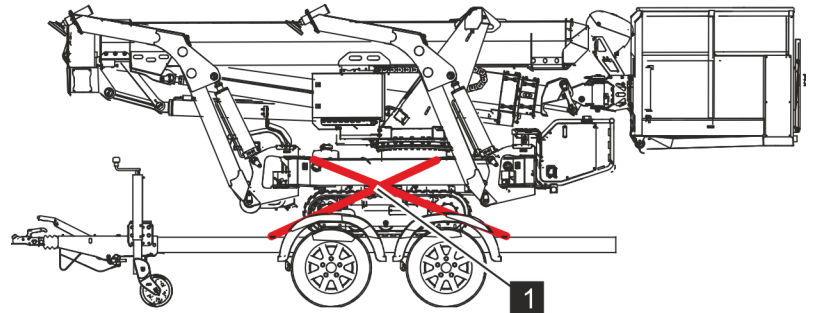
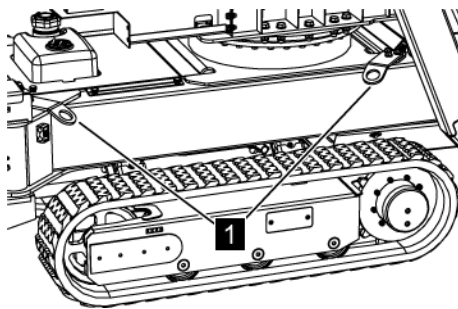
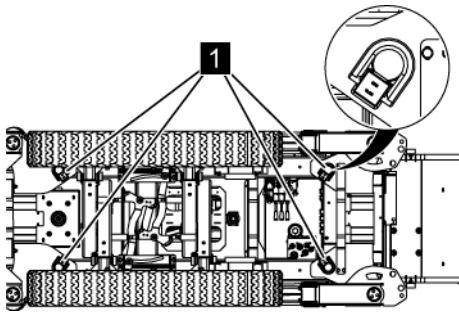

Fig. 37: "Crossed over" anchoring
Fig. 38: Trailer attachment points
Fig. 39: Truck attachment point
- The machine must be anchored to the means of transport by safety belts connected to the specially provided load blocks (Fig. 38/1 and Fig. 39/1).
Anchor and secure the aerial access platform to the trailer by attaching the lifting accessories (e.g. safety belts) to the mounts (Fig. 38/1) with a crossed over pattern (Fig. 37/1).
4. → Anchor and secure the aerial access platform to loading platform, e.g. with safety belts attached to the load blocks (Fig. 39/1).